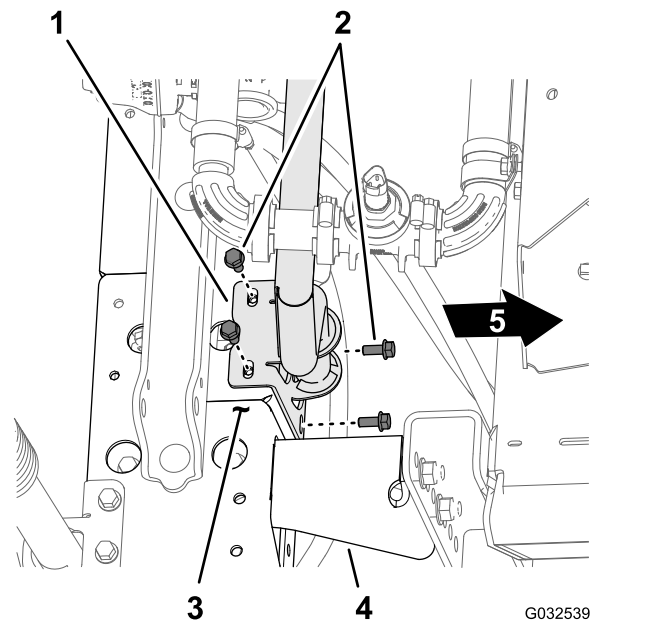
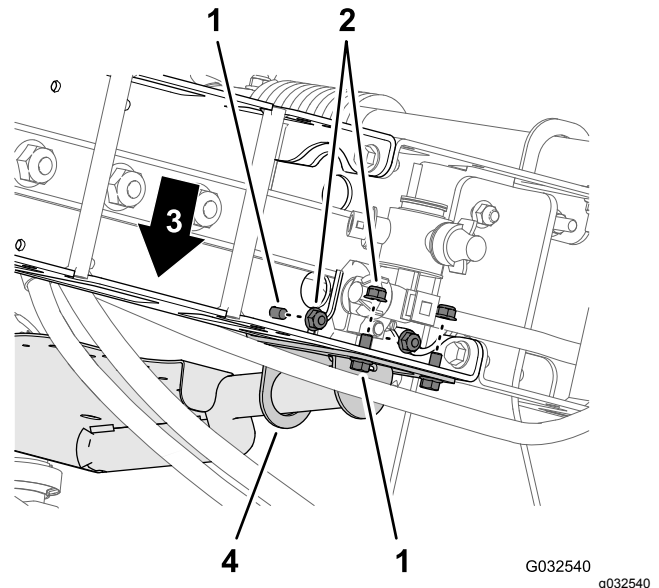

Figure 62
Figure 63
- Align the holes on the mount bracket of the valve mount to the holes on the truss frame of the center-boom section (Figure 62).
- Assemble the valve mount to the truss frame (Figure 62 and Figure 63) with 4 bolts (5/16 x 3/4 inch) and 4 flange locknuts (5/16 inch).